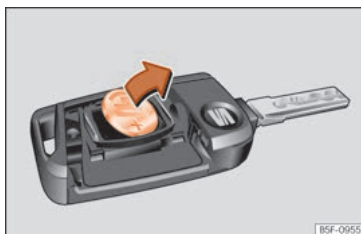

Fig. 146 Vehicle key: removing the battery.
- Extract the battery from the compartment using a suitable thin object » **Fig. 146.**
- Place the new battery in the compartment as shown » **Fig. 146**, pressing in the opposite direction to that shown by the arrow » **ⓘ.**